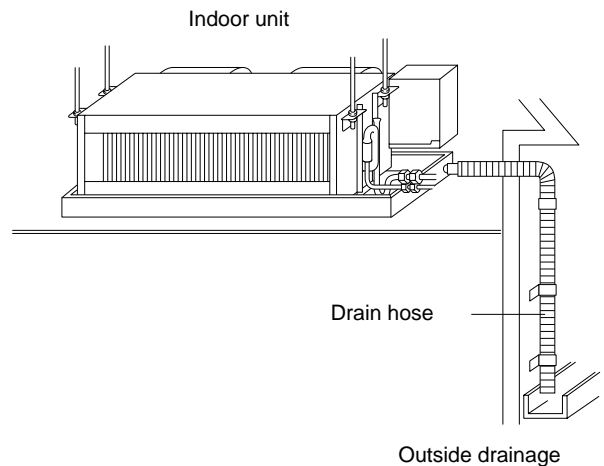

Fig. 1
- select a location where tubing and drain hose have the shortest run to the outside. (Fig. 1)